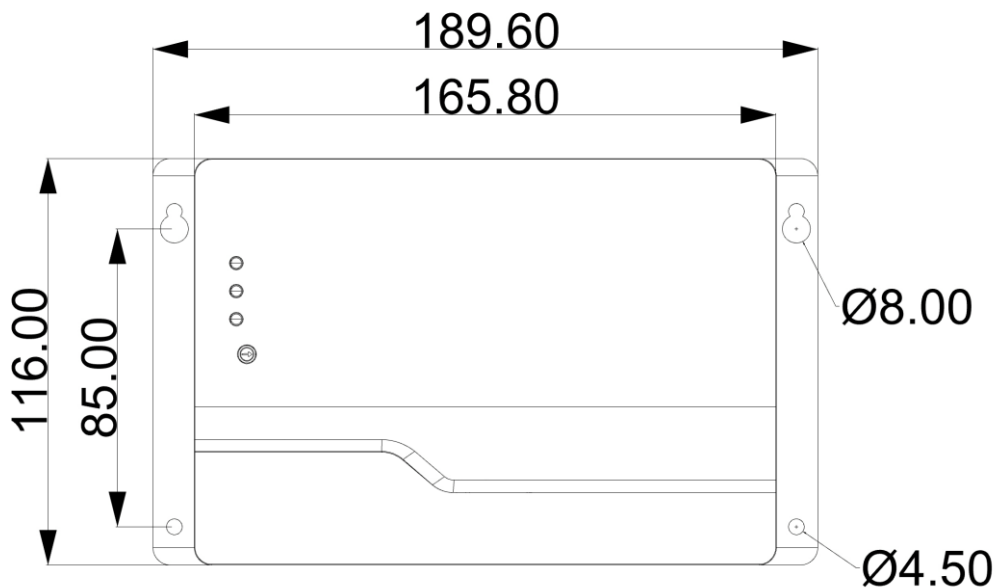

Figure 3-2 Lock Hole Requirements
- Ensure the controller is flush on mounting material. Drills the holes based on the lock hole requirements. See Figure 3-2.